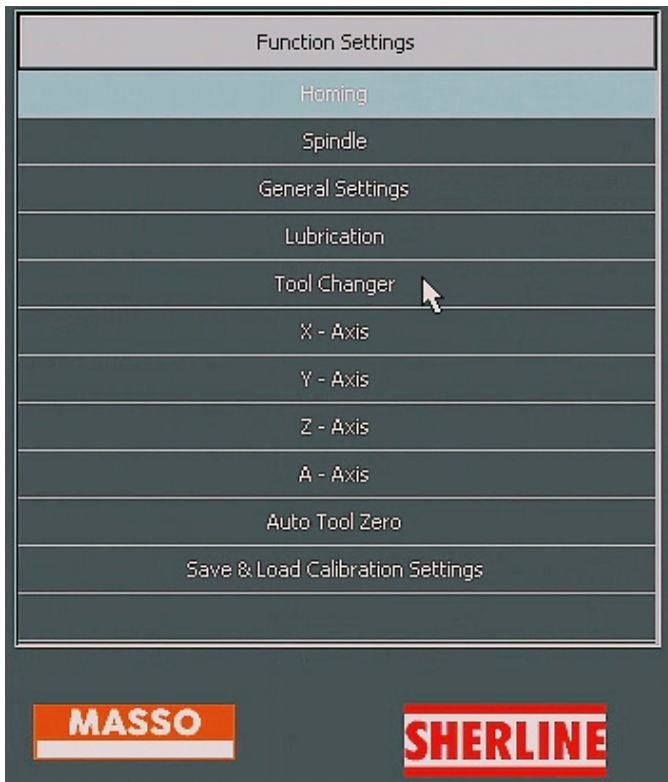

FIGURE 1
1. Go to the F1 Setup screen. Click on **Tool Changer** under the **Function Settings** (see Figure 1).